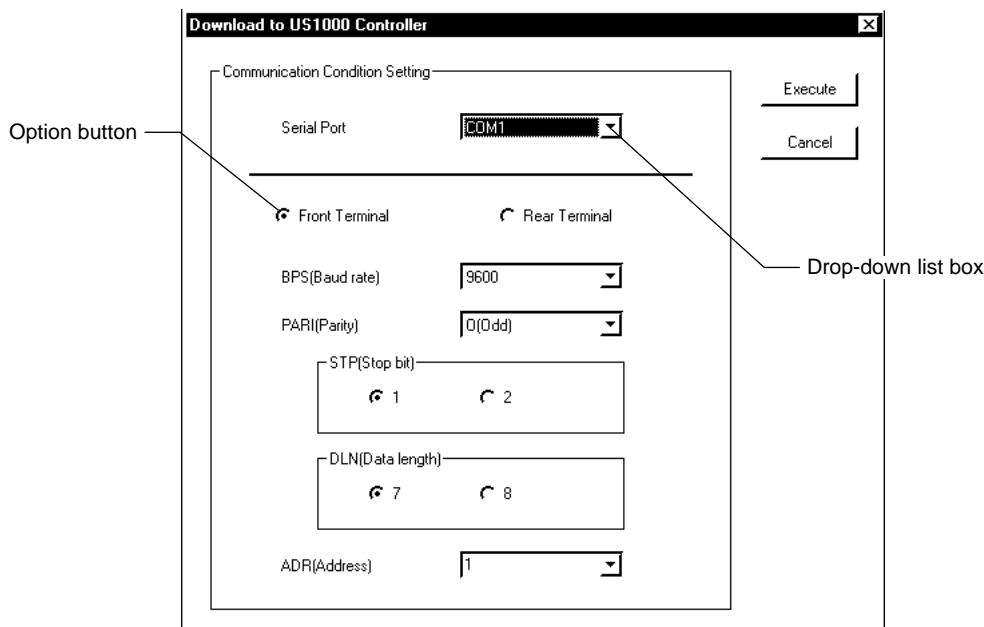

Figure 8.2.1 [Download to US1000 Controller] Dialog Box
- ① From the tool menus, choose <Communication>, then <Download to US1000 Controller...>. The [Download to US1000 Controller] dialog box (Figure 8.2.1) appears.
- ③ From the <Serial Port> drop-down list box, select a communication port of the personal computer.
- ④ Click the <Execute> button.
- ① From the tool menus, choose <Communication>, then <Download to US1000 Controller...>. The [Download to US1000 Controller] dialog box appears.
- ③ From the <Serial Port> drop-down list box, select a communication port of the personal computer. Then, from the <Baud rate>, <Parity> and <Address> drop-down list boxes, choose the options of the three communication conditions, the baud rate, parity and address. Also choose the options of the two communication conditions, the stop bit and data length, by clicking the appropriate option buttons in the <Stop bit> and <Data length> sections.